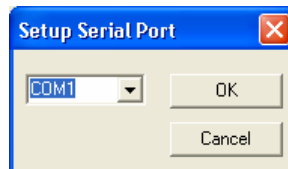

Figure 38 - Setup Serial Port Dialog
1. Choose **Setup** ➔ **Serial Port** from the main menu. The Setup Serial Port Dialog (Figure 38) appears.